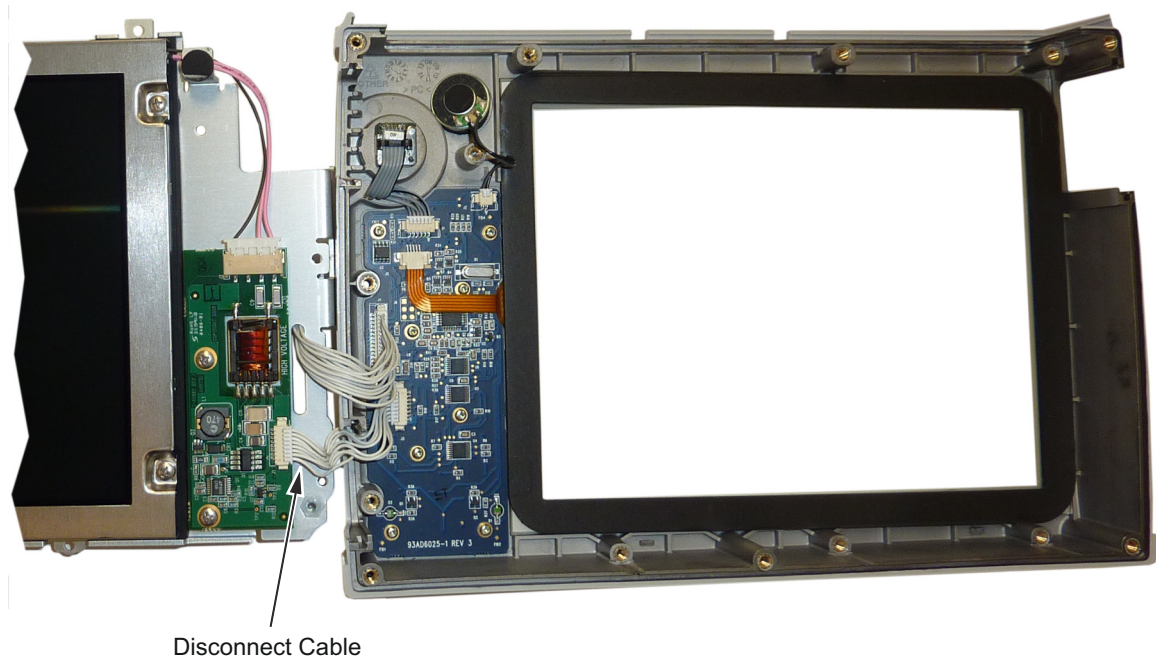

Figure 6-11. Replacing the LCD Assembly
4. Turn the LCD assembly over and disconnect the front half of the case from the LCD Assembly (Figure 6-11).